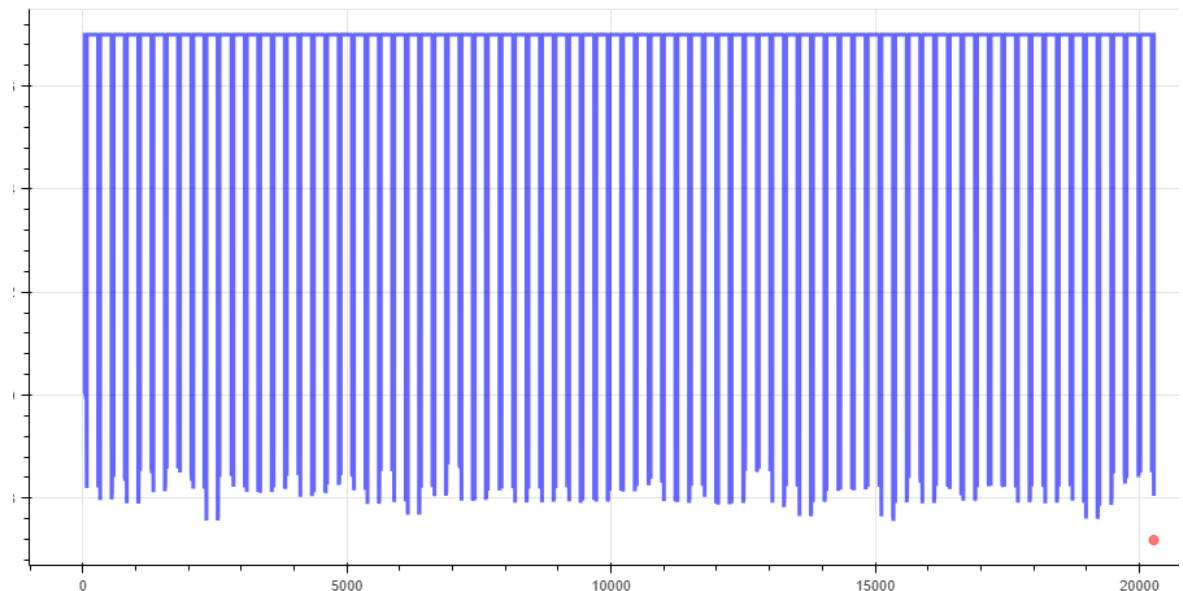

Figure 43 Points Between Blade Filter Error
7.1.5. Figure 43 Points Between Blade Filter Error can occur when the sample frequency is incorrectly set or the Points Between Blades is incorrectly calculated